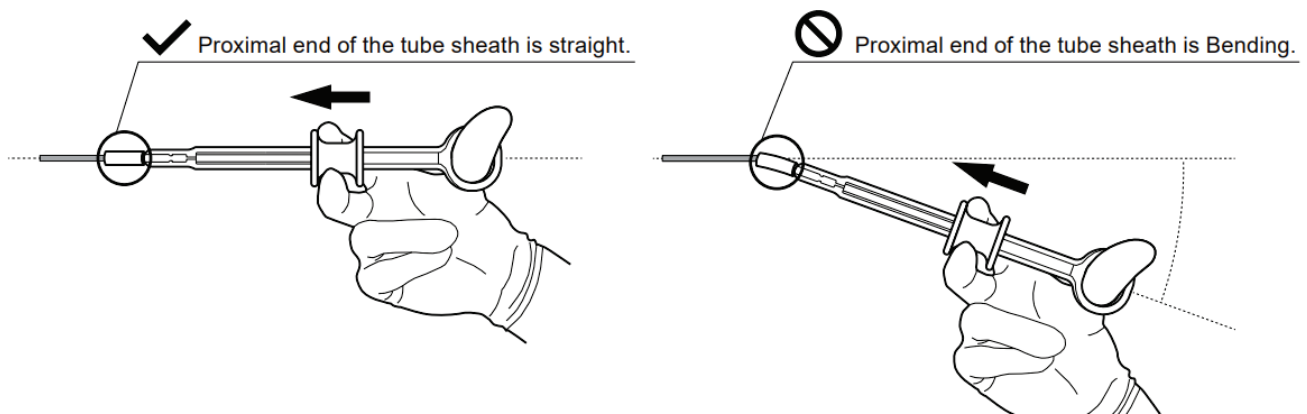

Figure 2.
- To detach the loop, ensure the proximal end of the tube sheath and the handle remain straight and aligned with the forceps (biopsy) valve of the endoscope. Then, push the slider as shown in Figure 2. Avoid bending the proximal end, as this increases frictional resistance and may lead to breakage of the operating pipe when the slider is pushed. In this case, refer to Section 12, “Emergency Treatment” and as shown “Equipment meant to be used in an emergency” in the IFU manual.